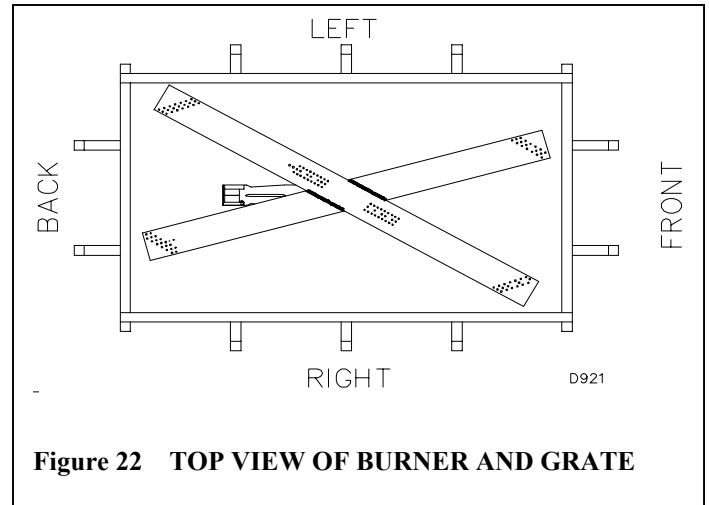

Figure 22 TOP VIEW OF BURNER AND GRATE
7. Figure 22 shows the top view of the burner and grate.